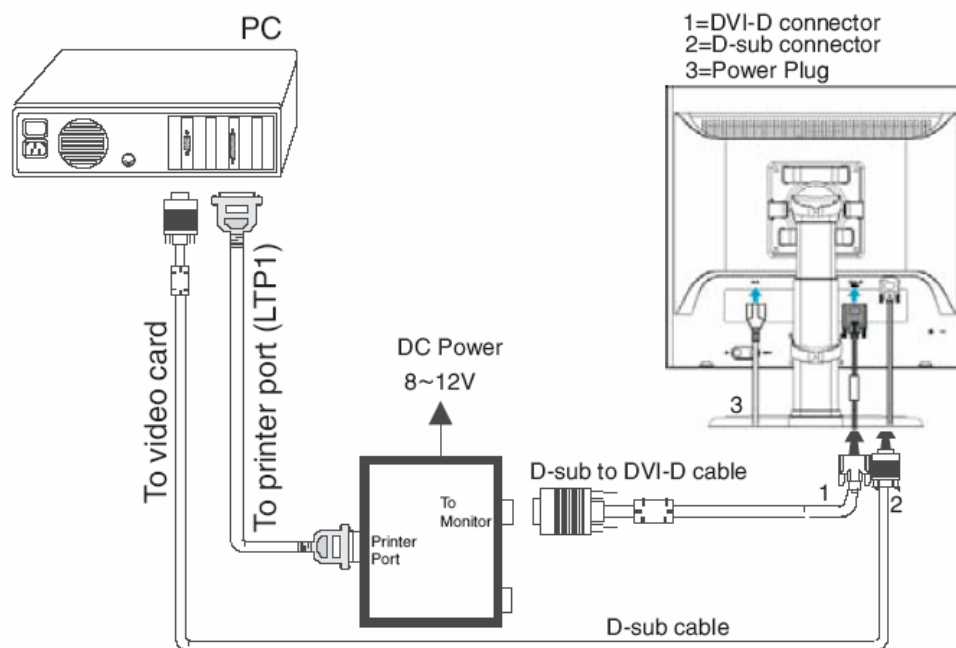

Fig. 27
Step 1: After initialize alignment box, connecting all cables and box as shown in Fig. 27.